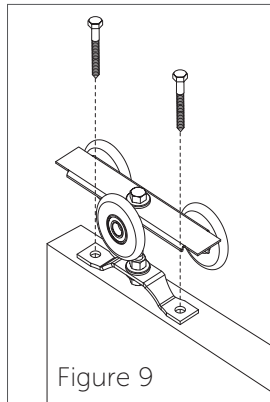

Figure 9
11. Install the hanger (D) on the top of the door with the edge of the hanger lining up with the pencil mark on the top. Secure with two lag screws (H)(Figure 9).